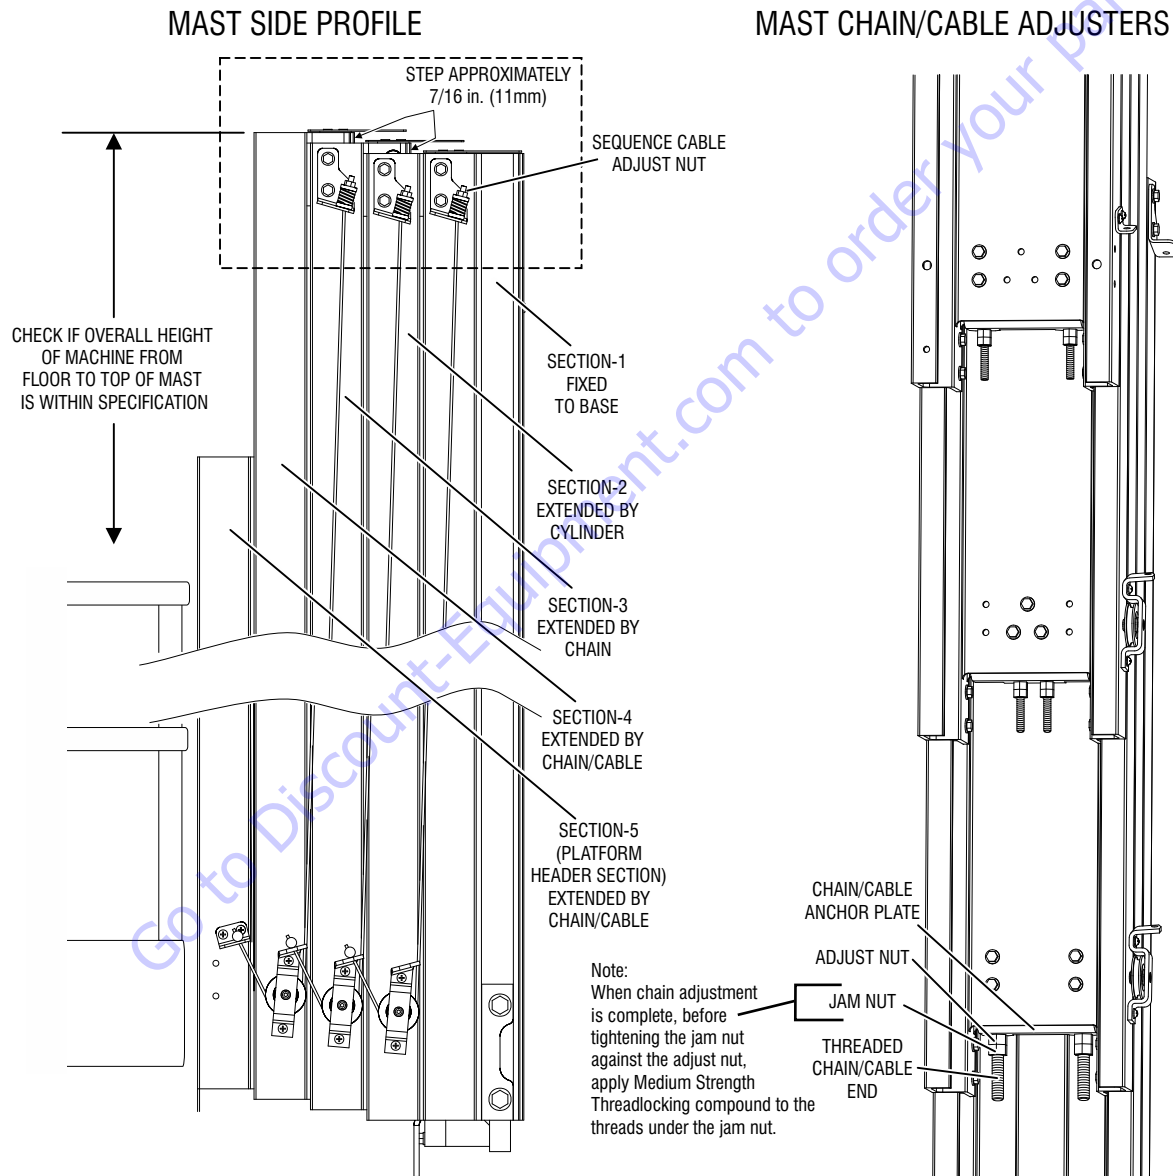

Figure 2-7. Mast Chain/Cable/Sequence Cable Adjustment Components. (Typical)
2. Then with no load in the platform check the side profile of the top of the mast for the amount of adjustment necessary to obtain the 7/16 in. (11mm) step for mast sections-3 and up. (See Figure 2-7.)
6. **Tighten** (to raise mast section), **or loosen** (to lower mast section) **the adjusting nut** against the anchor plate **on each** chain/cable. Adjust the nut the amount required to raise or lower the top of the mast section to match the side profile shown in Figure 2-7. when the mast is retracted. Be certain each chain/cable pair is adjusted to equal tension. (*The threaded end of the chain/cable will need to be restrained while tightening the adjust nut to keep the chain/cable from twisting.*)
7. Retract the mast all the way and check if the top of the mast sections appear as shown in Figure 2-7.
8. Repeat steps (1) through (7) for remaining mast sections. **ENSURE THAT ALL CHAIN/CABLE PAIRS HAVE EQUAL TENSION.**
1. Be certain the mast is completely retracted and at the bottom of travel. Check the mast "Side Profile" at the top of the mast as shown in Figure 2-7., adjust mast sections to proper height if necessary.